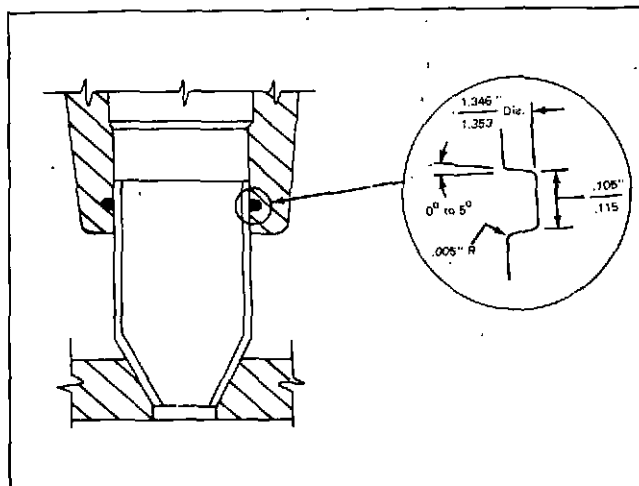

Fig. 2-22 (V40244). The O-Ring Groove In The Cylinder Head.
1. Apply a coat of clean lubricating oil to a new injector sleeve O-ring. Install the O-ring into the groove in the bore for the sleeve, Fig. 2-22.